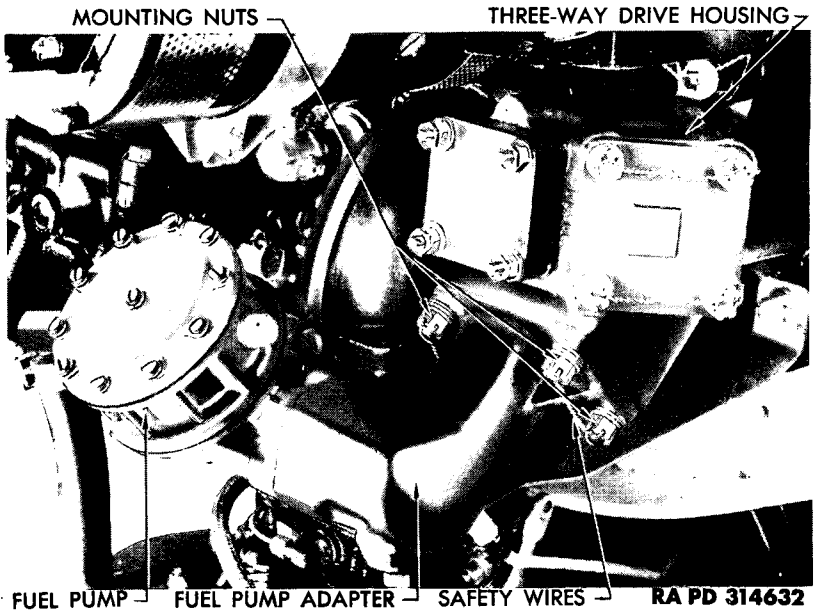

Figure 25 – Fuel Pump
c. Remove Fuel Pump. Cut and remove safety wires. Remove four nuts and washers from studs which hold fuel pump adapter elbow to mounting pad for three-way accessory drive housing (fig. 25). Remove fuel pump and elbow from engine as an assembly. Pull fuel pump drive gear from square adapter on drive gear shaft, to eliminate the possibility of the gear falling out and being damaged.